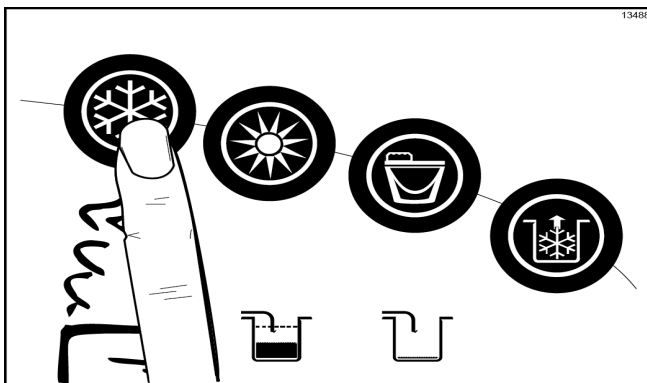

Figure-41
4. When ready to resume normal operation, press the Auto symbol ❄️. (See Figure-41.)